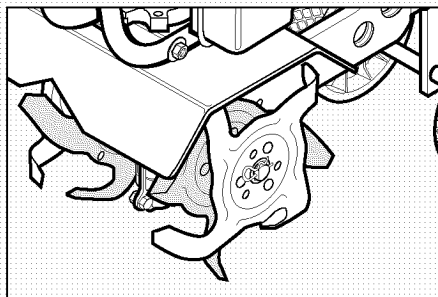

Figure 17: Stony soil tine pattern.
4. Reinstall the two outer tine sections on the sides from which they were removed (Figure 17).